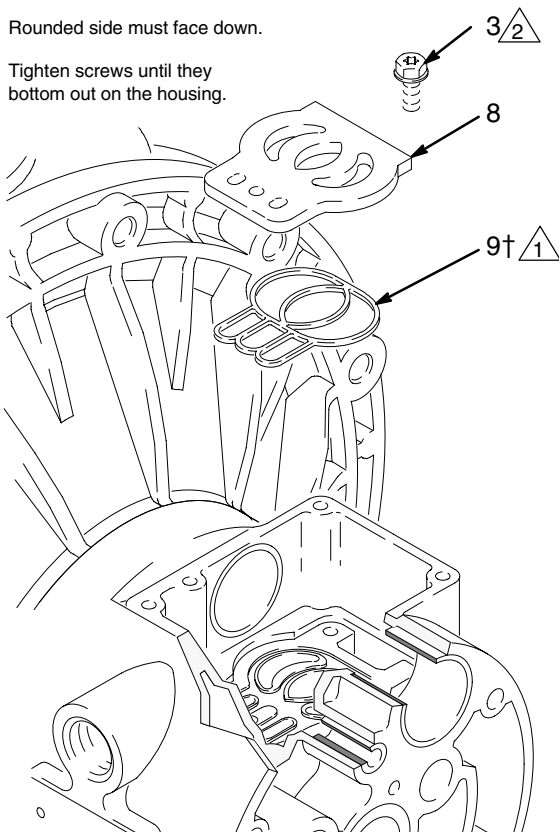

Fig. 10
5. Inspect the valve plate (8) in place. If damaged, use a Torx (T20) screwdriver or 7 mm socket wrench to remove the three screws (3). Remove the valve plate (8) and, on aluminum center housing models, remove the seal (9). See Fig. 10.
2. On aluminum center housing models, install the valve plate seal (9) into the groove at the bottom of the valve cavity. The rounded side of the seal **must face down** into the groove. See Fig. 10.
3. Install the valve plate (8) in the cavity. On aluminum center housing models, the plate is reversible, so either side can face up. Install the three screws (3), using a Torx (T20) screwdriver or 7 mm socket wrench. Tighten until the screws bottom out on the housing. See Fig. 10.